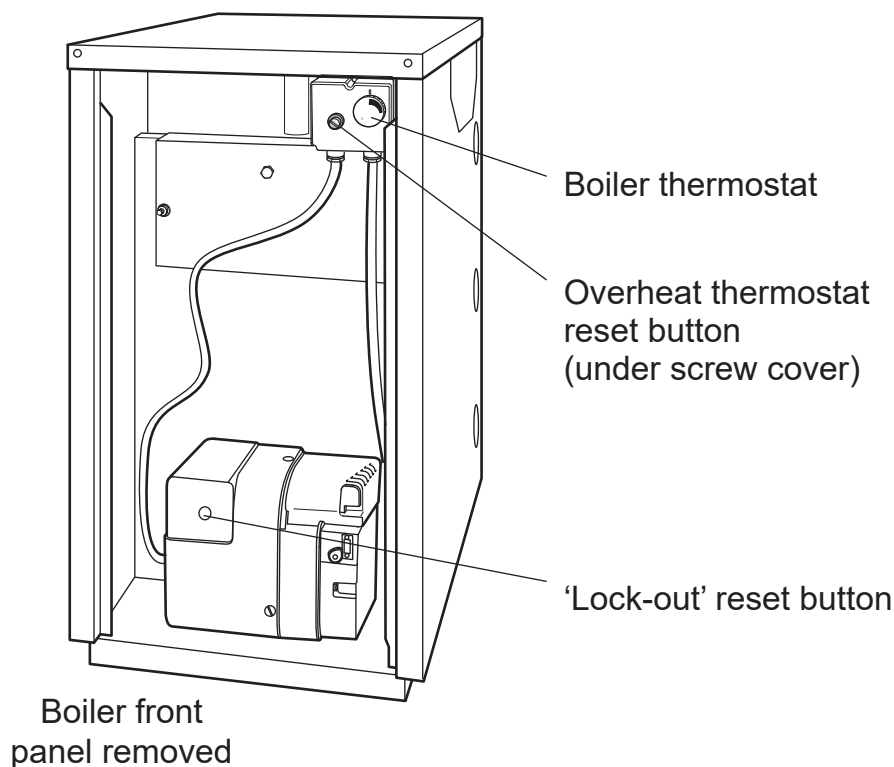

Figure 1-1: Euroflame Boiler Controls
To gain access to the boiler controls, remove the front casing door by turning the handle at the bottom anti-clockwise, pulling the door out at the bottom and withdrawing it from the casing to reveal the boiler controls as shown in Figure 1-1.
4. Check if the burner 'Lock-Out' reset button on the burner body (refer to Figure 1-1 for location) is lit.
Refer to Figure 1-1 for the location of the control panel within the boiler casing and for the details of the control panel.
To reset the overheat thermostat, unscrew the small plastic cap marked "overheat reset" (see Figure 1-1), press the button and replace the cap.